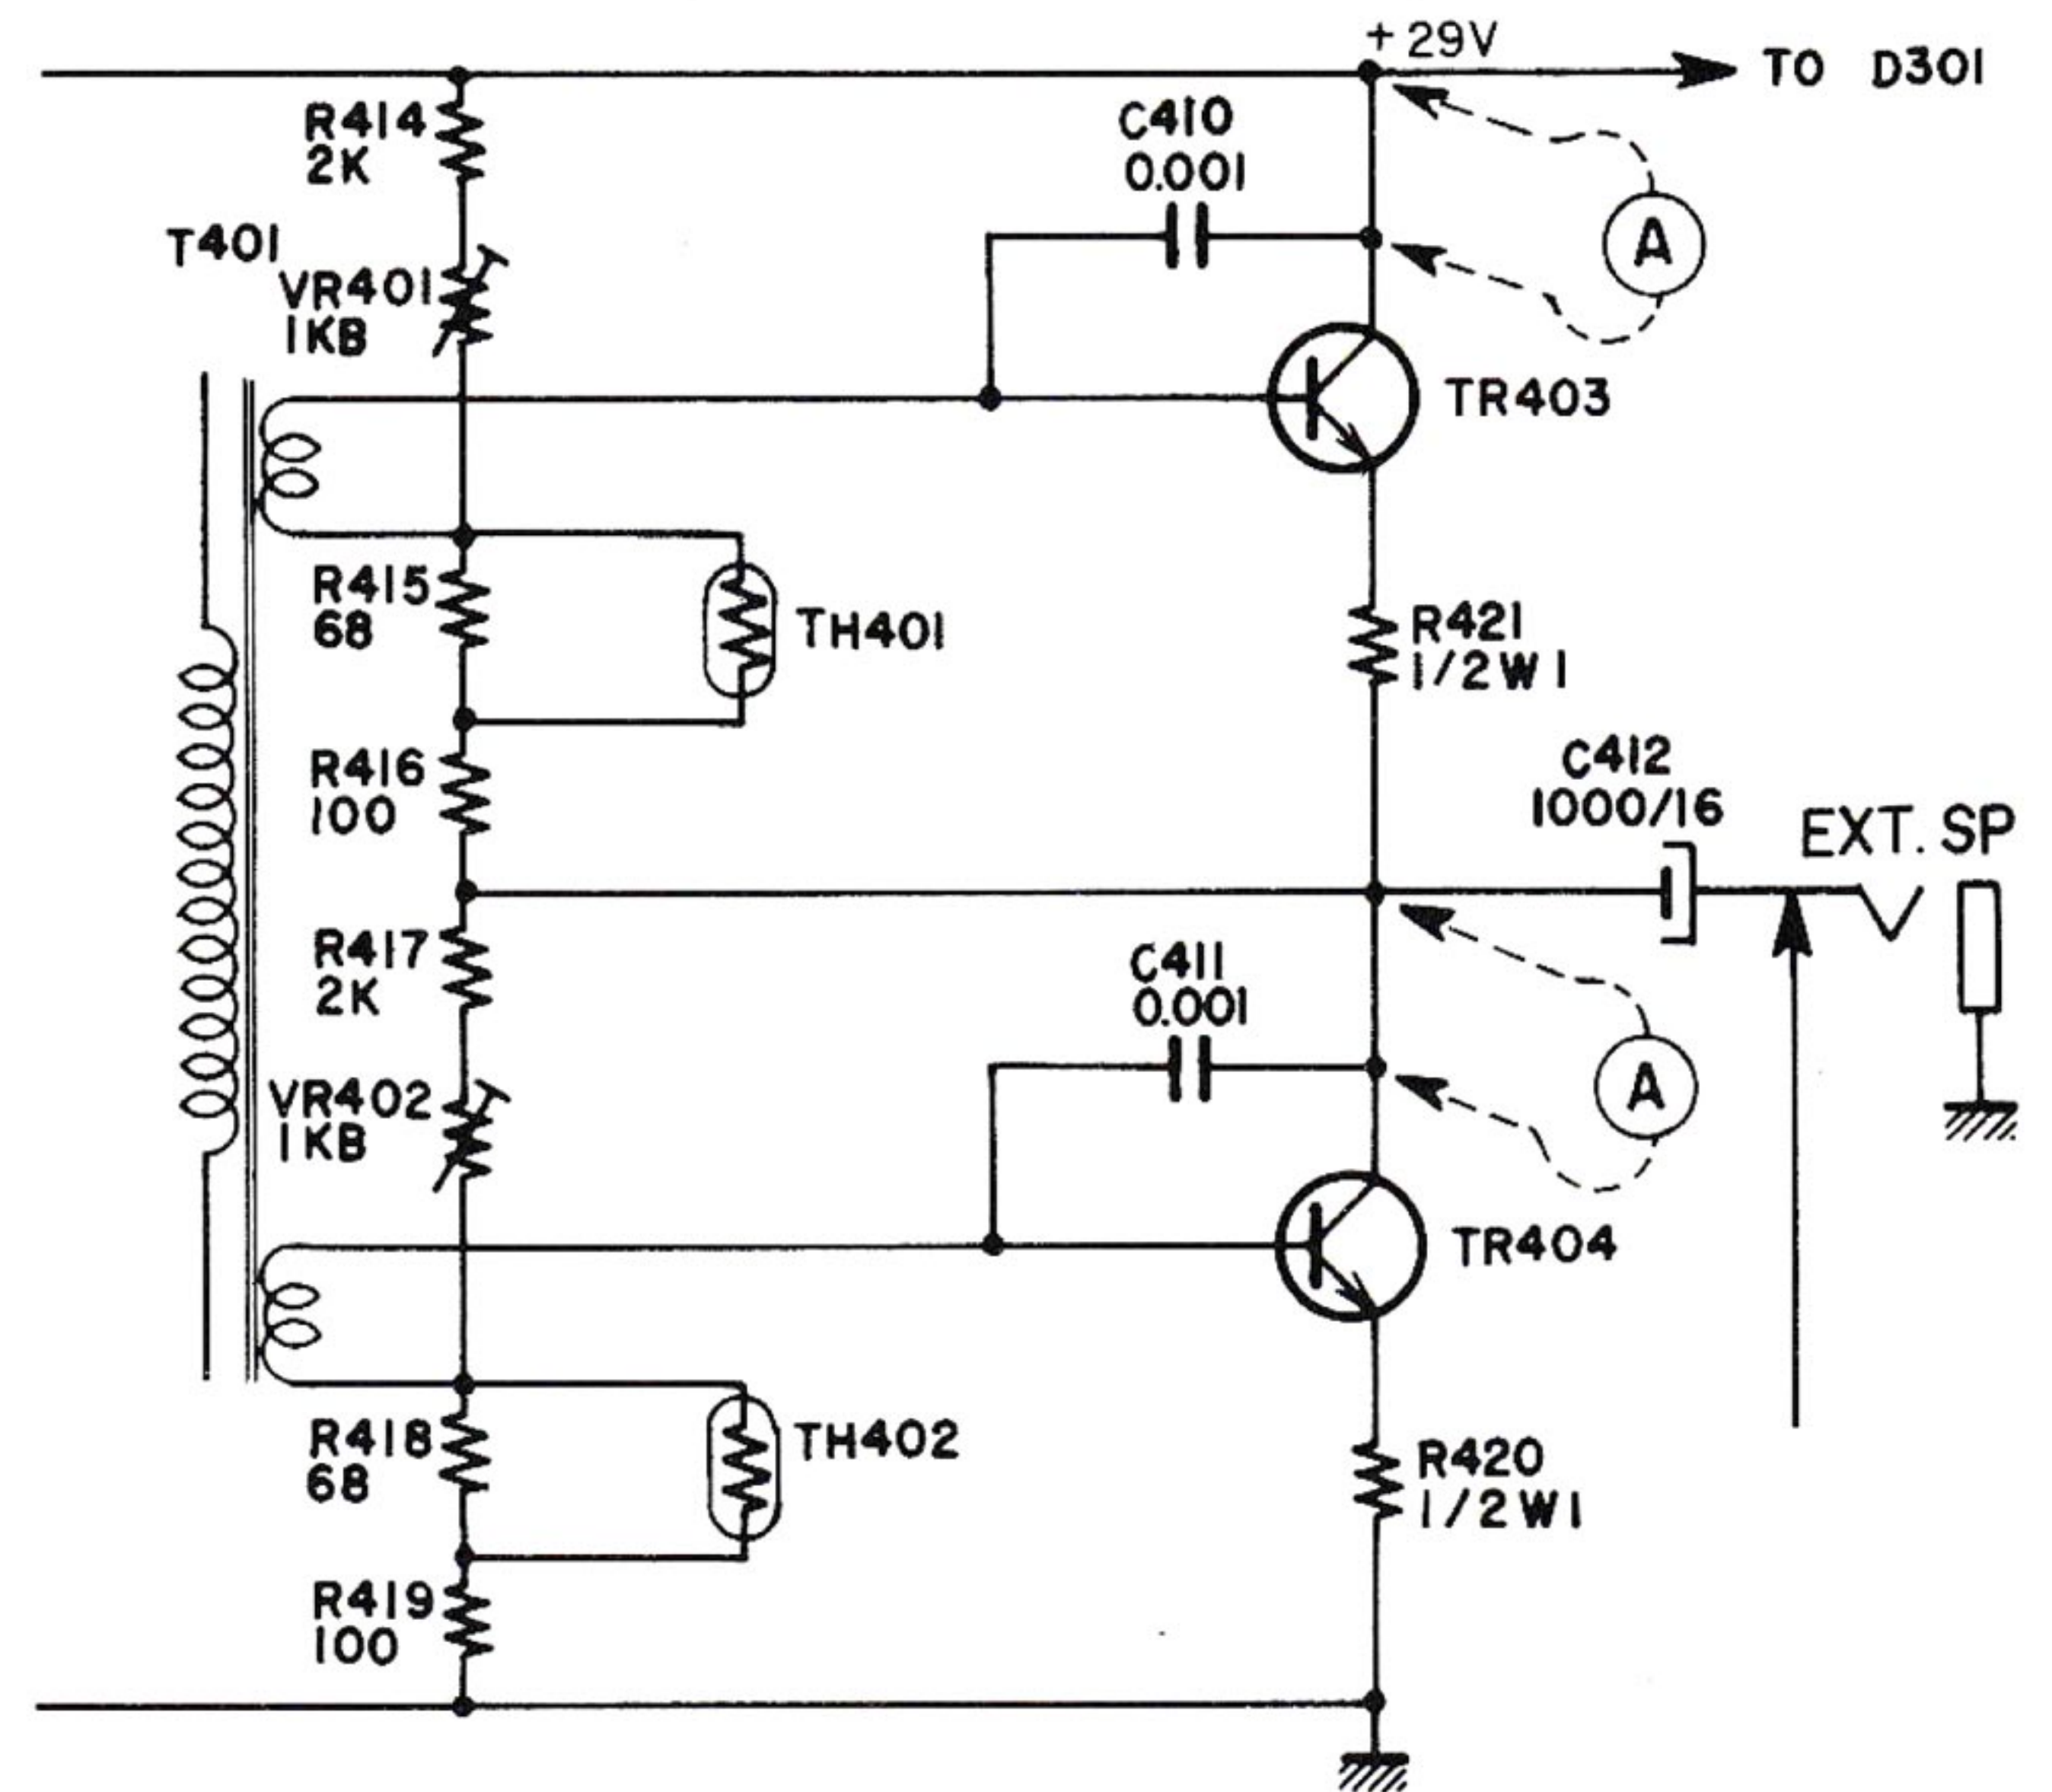

Fig. 6
5. ADJUSTMENT OF DC COLLECTOR CURRENT FOR POWER TRANSISTORS 2SC1013 WITH NO INPUT SIGNAL (See Fig. 6)